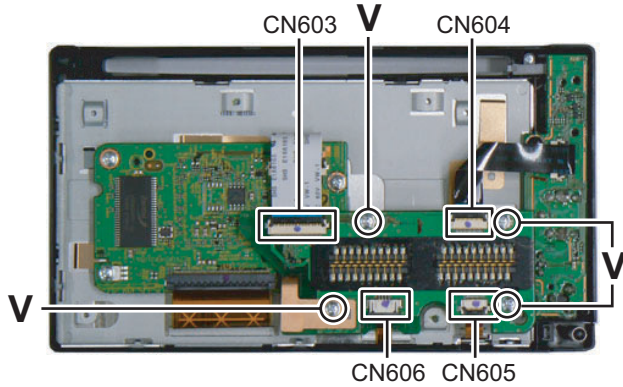

Fig.18
3.1.11 Removing the Panel-B board (See Fig.18)